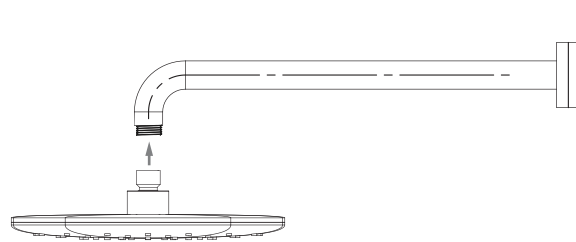

FIG 3.
4. For Mains Pressure, fit the flow restrictor first and then screw the rain head onto the arm (fig 3).